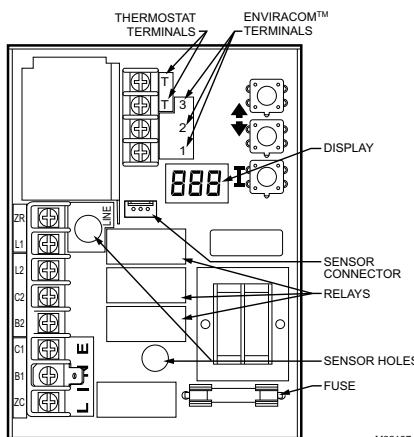

Fig. 5. Circuit board, showing sensor connection and well holes for vertical mount models.
- Carefully align replacement sensor with hole in circuit board and guide through Aquastat case and into well. (See Fig. 5).
- Connect sensor to circuit board by pressing connector on sensor unit into mating connector on circuit board (See Fig. 5).
To discourage unauthorized changing of Aquastat settings, a procedure to enter the **ADJUSTMENT** mode is required. To enter the **ADJUSTMENT** mode, press the **UP**, **DOWN**, and **I** buttons (Refer to Fig. 5) simultaneously for three seconds. Press the **I** button until the feature requiring adjustment is displayed: